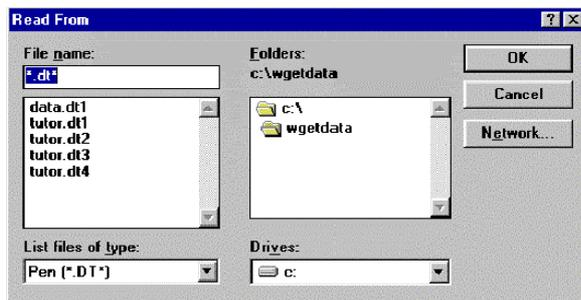

Figure 4 Export Menu Item Dialog Box
A. Export Menu Item - This option creates a file that can be read by other programs such as spreadsheets. When Export is selected, the dialog box shown in Figure 4 will be displayed. There are several choices available to you in this dialog box.